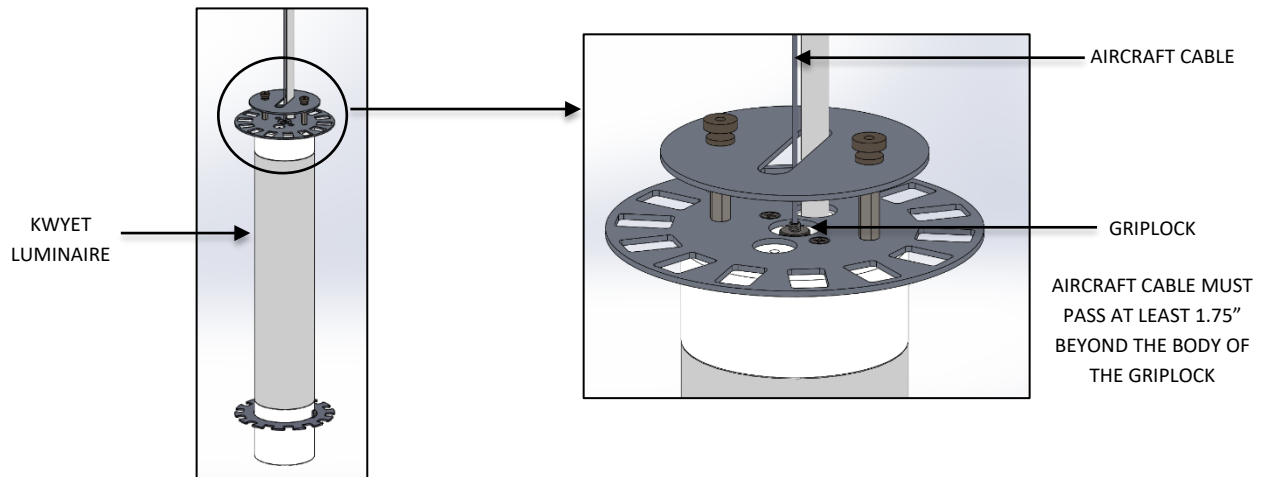

FIG. 11 – AIRCRAFT CABLE INSTALLATION
6. Raise the FIXTURE and feed the AIRCRAFT CABLE into the GRIPLOCK by pressing the plunger of the GRIPLOCK and insert the AIRCRAFT CABLE into the body of the GRIPLOCK and adjust fixture drop to desired height as shown in FIG. 11.